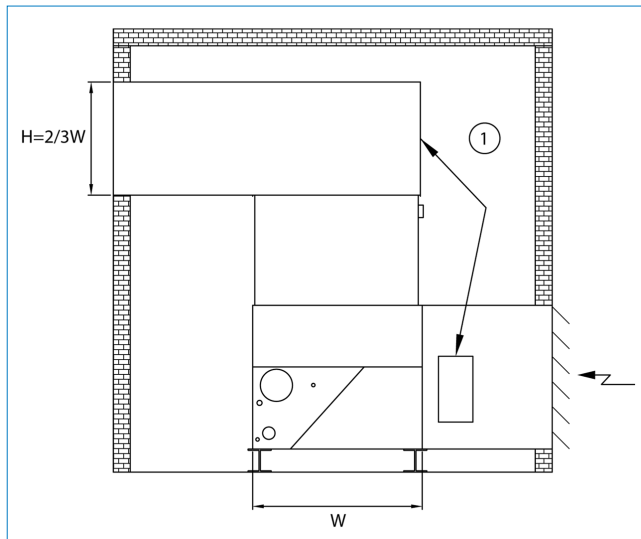

Figure 12: Ducted Unit Enclosure
- ◆ Turns in inlet or discharge ducts should be avoided. Where turns must be used, velocities should be minimized in the vicinity of the turn. Turns in discharge ducting should be designed in accordance with the “2/3 rd rule” shown in Figure 12.